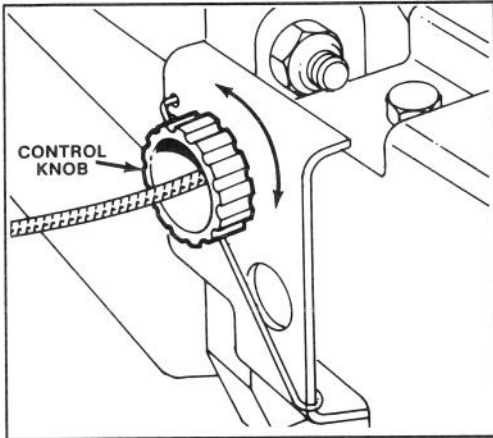

Figure 19
2. ADJUSTMENT (Fig. 19) – Rotate control knob clockwise 1/2 turn if mower does not self-propel. If mower creeps forward, rotate knob 1/2 turn counterclockwise to loosen belt.